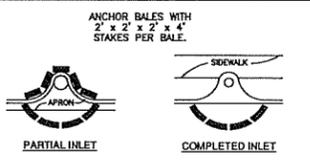

FIGURE 9
- Slopes of banks of retention/detention ponds shall be constructed not steeper than 4(H):1(V) from top of bank to two feet below normal water level.
- All grass slopes constructed steeper than 4(H):1(V) shall be sodded as soon as practical after their construction.
- Sod shall be placed for a 3-foot wide strip adjoining all cutting and around all inlets as shown in Figure 9. Sod shall be placed before silt barriers, shown in Figure 5, are installed.
- Stormwater inlets shall be protected during construction as shown in Figures 9 and 12. Protection measures shall be employed as soon as practical during the various stages of inlet construction. Silt barriers shall remain in place until sodding around inlets is complete.